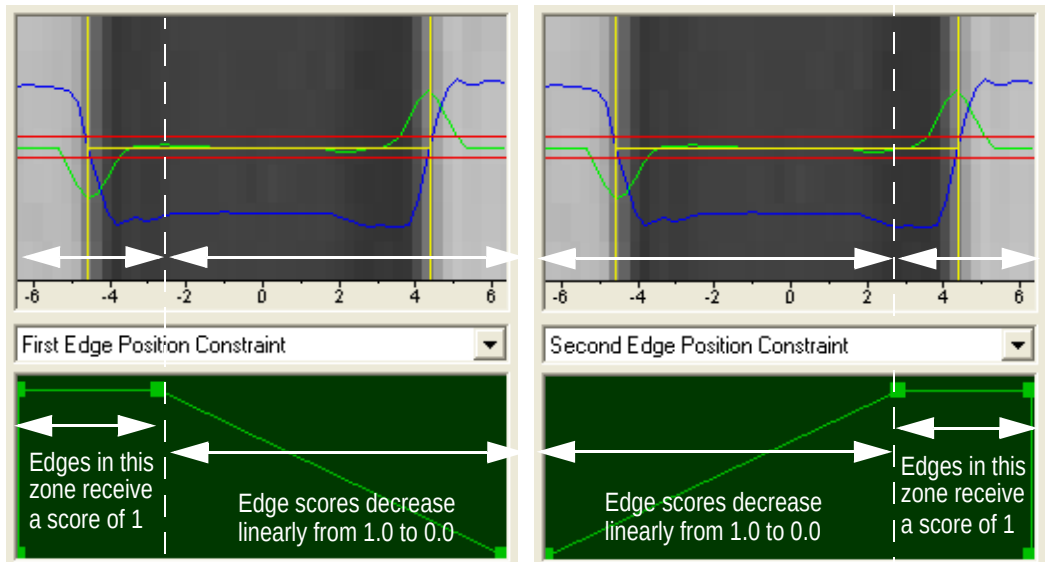

Figure 31 Adjusting Position Constraint Histograms
4. Use the mouse to drag the handles in the histogram window. Set the 1st and the 2nd edge position constraints as illustrated in Figure 31.